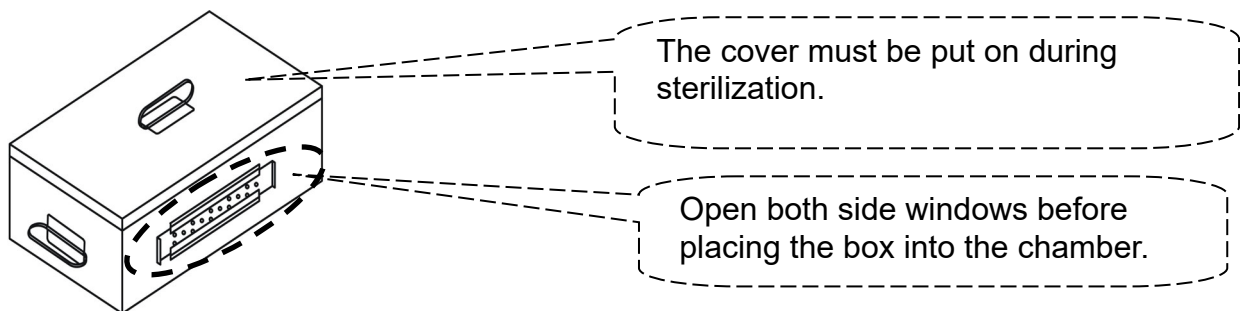

Figure 39
- D. Place the items to be sterilized and the sterilization indicator strips (or biological indicator) into the box as required. Remember to open both side windows before placing the box into the sterilizer as Figure 39.